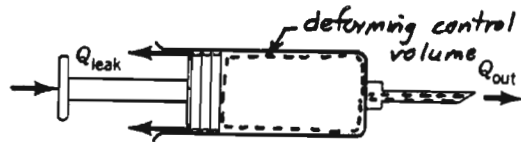

FIGURE P5.27
**5.27** A hypodermic syringe (see Fig. P5.27) is used to apply a vaccine. If the plunger is moved forward at the steady rate of 20 mm/s and if vaccine leaks past the plunger at 0.1 of the volume flowrate out the needle opening, calculate the average velocity of the needle exit flow. The inside diameters of the syringe and the needle are 20 mm and 0.7 mm.